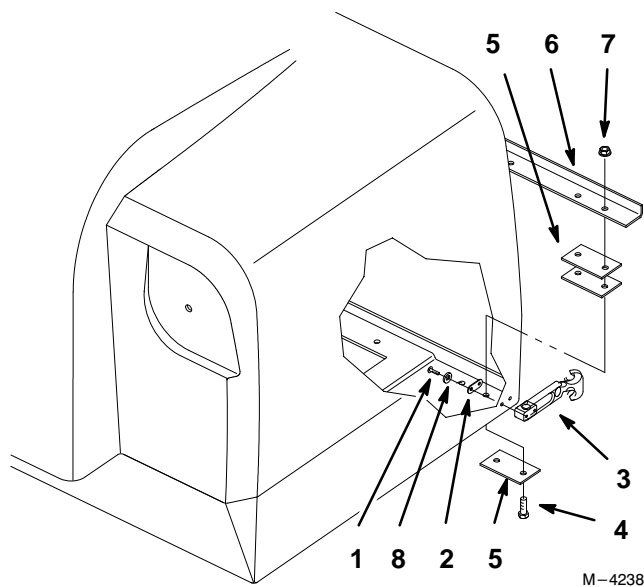

Figure 7
2. Remove existing bolts, washers and latch (Fig. 7).
Note: It may be necessary to remove the bin flange in order to get proper access to bolts and washers (Fig. 7).
3. Discard the washers and replace with back plate. Tighten bolts, back plate and latch (Fig. 7).